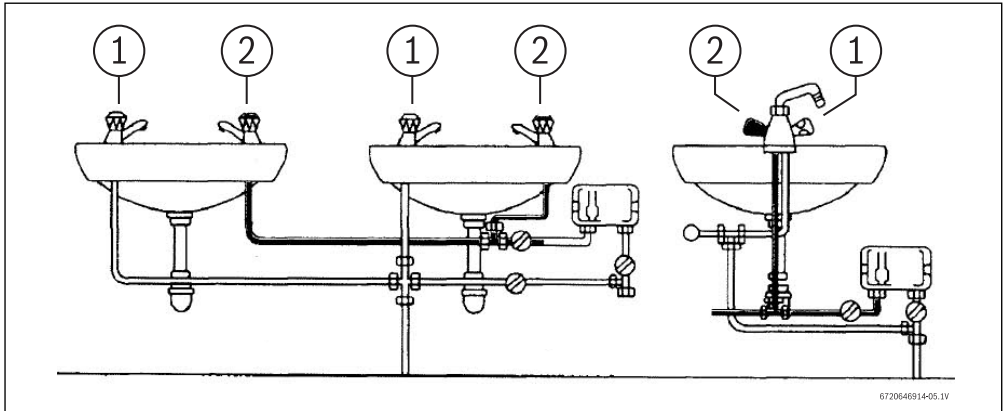

Fig. 4 Examples of installations (Show front view)
- Position the unit as shown (Fig. 4 ). Remember to keep the length of hot water pipe to a minimum in order to save energy.
- Unit must be mounted as shown in Fig. 4 with plumbing connection on the bottom. Under no circumstances should the unit be mounted differently.